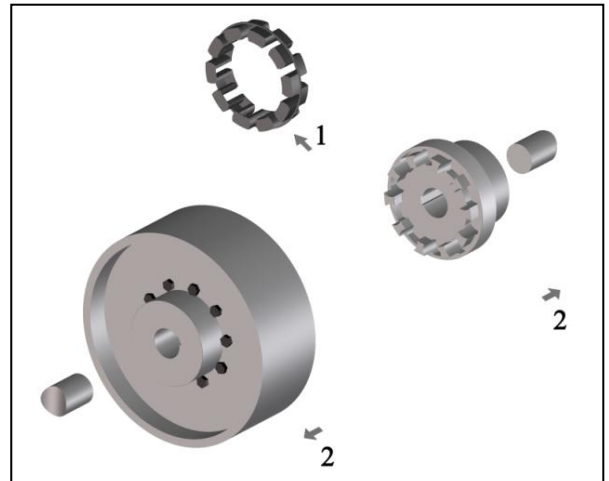

Fig. 3
- Remove the elastic intermediate ring (Figure 3, pos. 1).
- Pull the pre-mounted coupling halves in the intended position on the shaft ends (Figure 3, pos. 2).